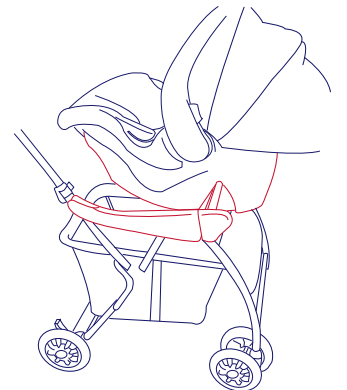

Figure 10.
- Place car seat onto front bar. See figure 10. **NOTE: Some brands of infant car seats will lock onto the front bar, and some brands may simply rest on the front bar, You must ALWAYS use the safety belt to secure every car seat that is placed on the snap n go.**